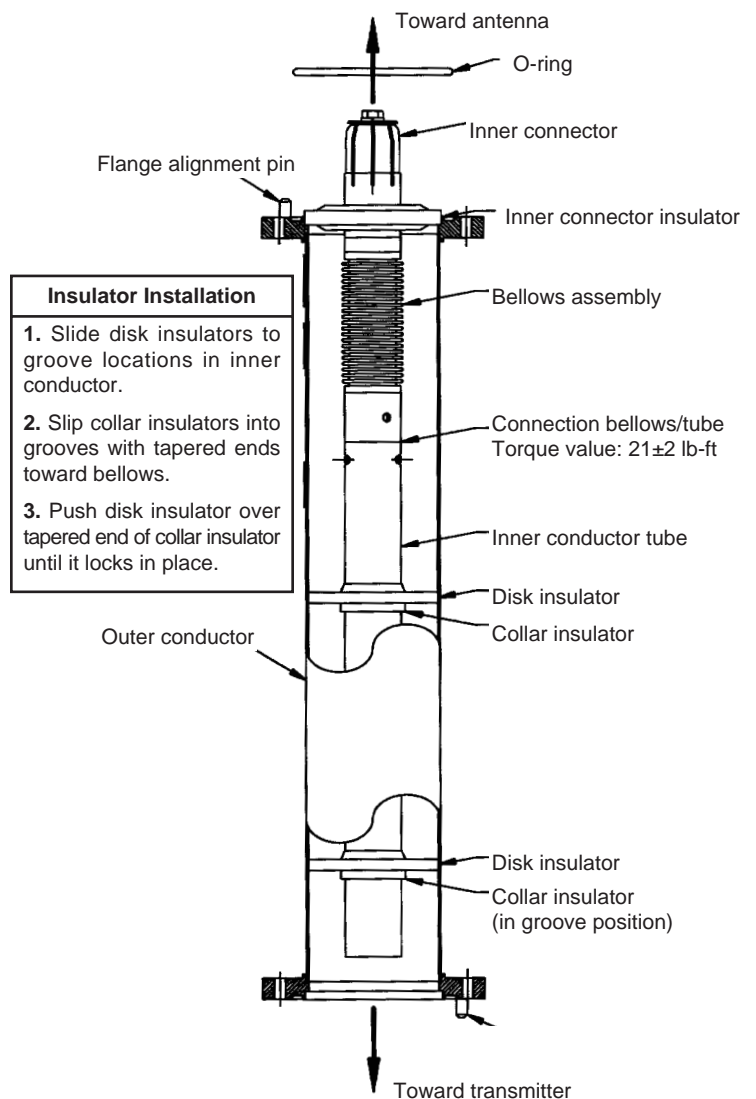

Figure 1
10. Install insulators according to box in Figure 1.